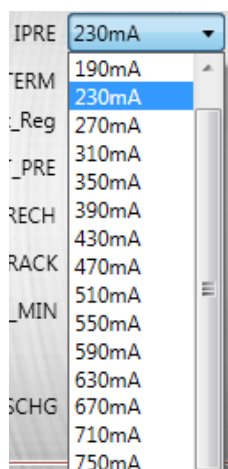

Figure 9: Pre-Charge Current Setting
- Set the pre-charge current (see Figure 9). Its range is 150mA to 750mA, and the default value is 230mA.